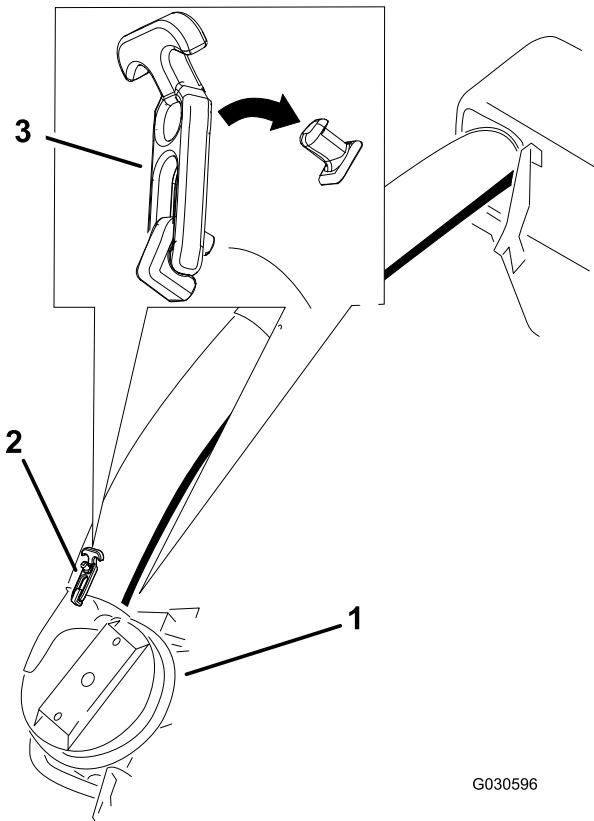
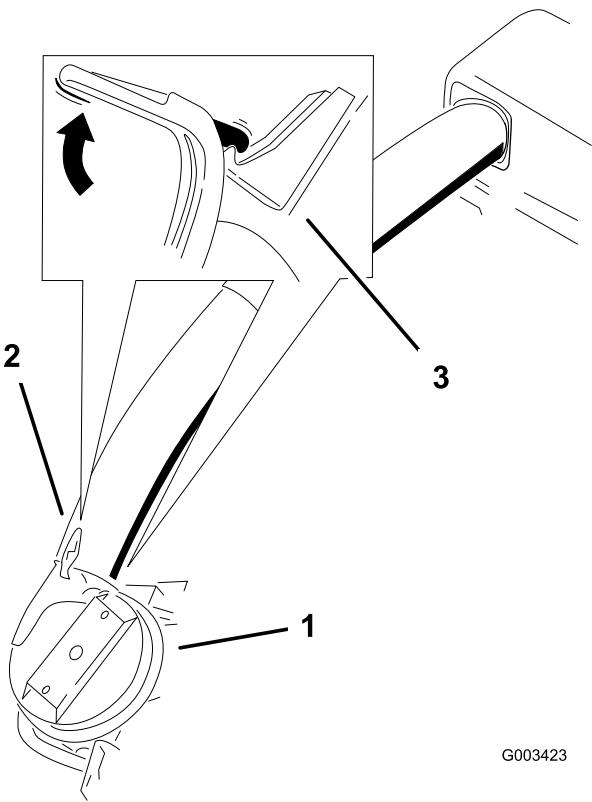

Figure 42
Figure 43
8. Slide the lower tube onto the boot and latch them together (Figure 42 or Figure 43).